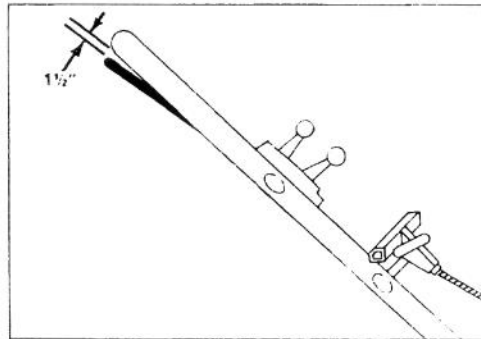

Figure 19
3. CHECK ADJUSTMENT — Slowly pull mower backward while control bar is gradually moved toward handle. Adjustment is correct when rear wheels stop turning and control bar is about 1-1/2 inches from handle (Fig. 19).